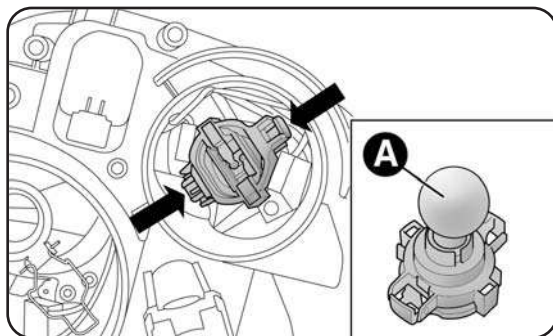

fig. 18
- press down near the bulb holder locking tabs (shown in fig. 18 by the arrows) and simultaneously pull the unit;